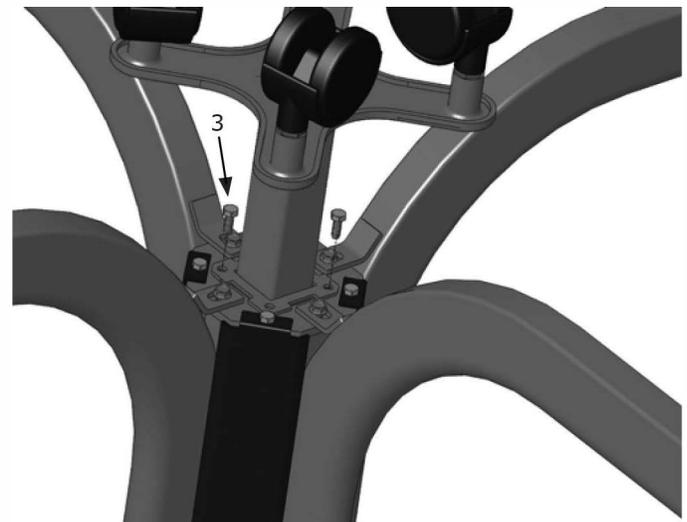

Figure 6
6. Secure the Four Caster EZ Roller assembly by inserting the two #10 screws (Item 3, Figure 6, page 4) through the mounting plate into the holes in the table base (Figure 6, page 4). Tighten both screws using the 5/16" nut driver.
- Secure the Four Caster EZ Roller assembly by inserting the two #10 screws (Item 3) through the mounting plate into the holes in the table base (Figure 6). Tighten both screws using the 5/16" nut driver.